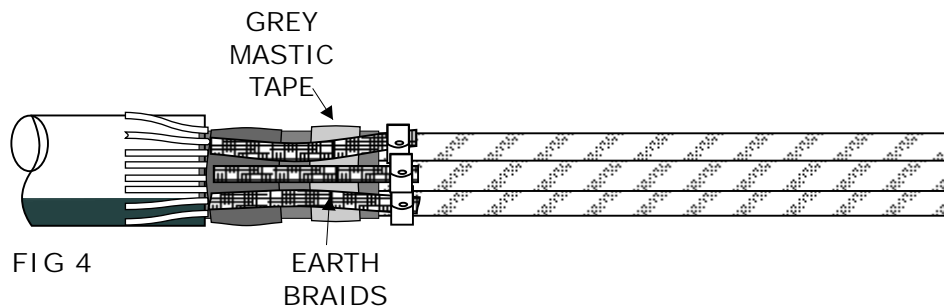
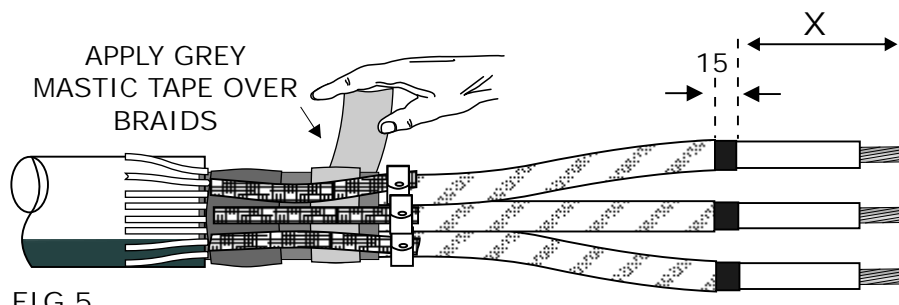

FIG 4
FIG 5
5. Apply a turn of Grey Mastic Tape around the Inner Cable Bedding as shown in Fig 4. Position the Copper Earth Braids onto the Cores so that they rest upon the Mastic Tape. Secure the Earth Braids to the Copper Tape Screens with the Roll Springs provided. Apply Grey Mastic Tape over the Braids as shown in Fig 5.
6. Remove the Copper Tape Screens to dimension shown in Table 1 (X) + 15mm as in Fig 5.
Carefully remove the Semi-Conductive layer to a point 15mm from the Copper Tapes as shown in Fig 5.